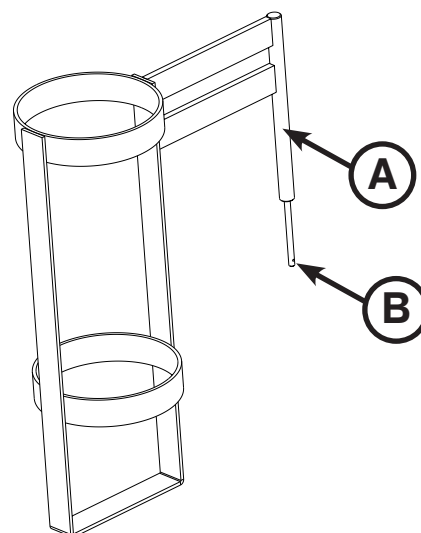

Figure 16.2: Upright Oxygen Bottle Holder
1. Insert the support bar (A) into the I.V. socket at any of the four litter corners.
2. Insert the cotter pin (B) through the hole in the support bar to hold the bottle holder in place as shown in Figure 16.2.